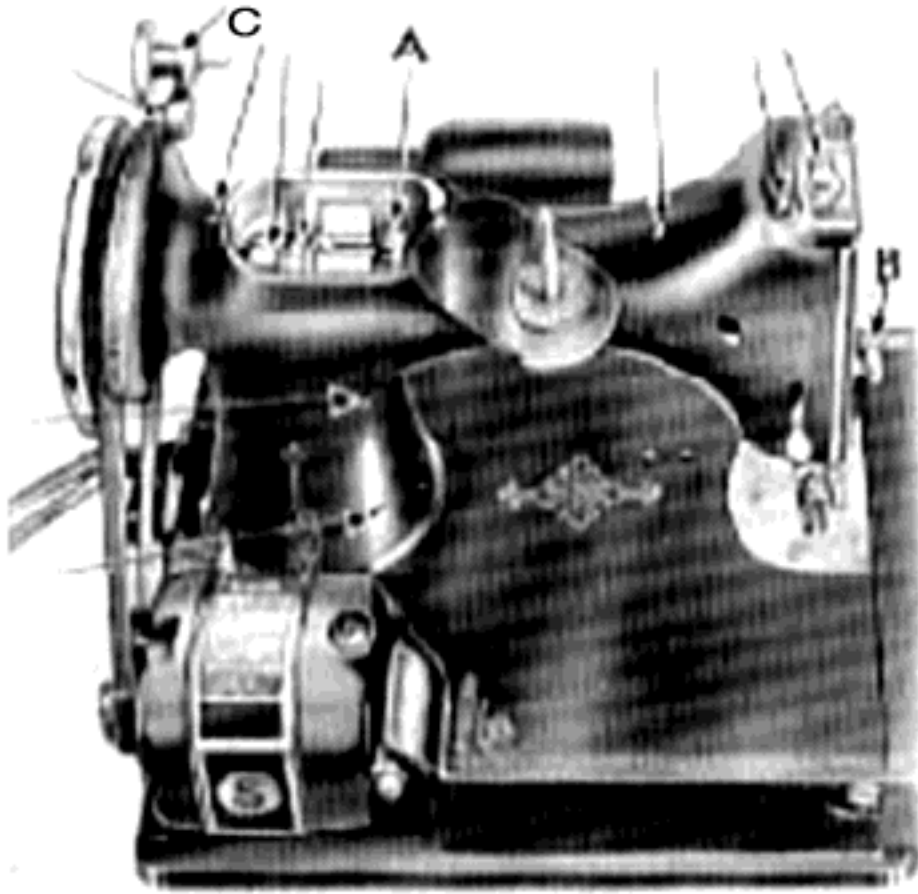
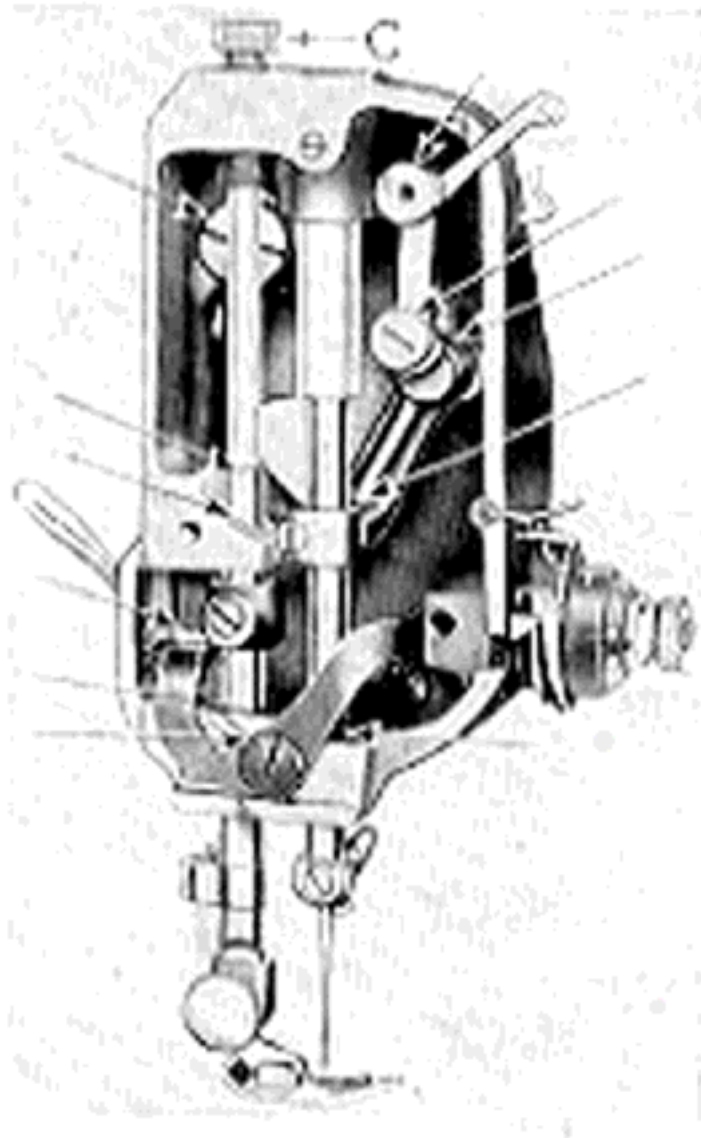

Fig. 18
Fig. 19
For ordinary family sewing it is seldom necessary to change the pressure on the material. If sewing fine silk or flimsy material, lighten the pressure by giving the thumb screw (C, Fig 19) two or three turns upwards. To increase the pressure, give the thumb screw a few turns downwards.
These should never be allowed to become dry. If used constantly, the machine should be oiled daily, while with moderate use, an occasional oiling is sufficient. A drop of oil should be applied at each of the points indicated by the unlettered arrows in Figs. 18, 19, and 20. Oil holes are provided in the machine for bearings which cannot be directly reached. When oiling insert the oil can spout well into the oil holes.
Turn back the cover at the top of the machine and oil the moving parts inside the arm as indicated in Fig. 18, and occasionally apply a small quantity of Singer Motor Lubricant to the teeth of the gear (A), then replace the cover.
out the thumb screw (B, Fig 18) and remove the face plate. Put one drop of oil into each of the holes and joints indicated in Fig. 19, then replace the face plate and thumb screw.